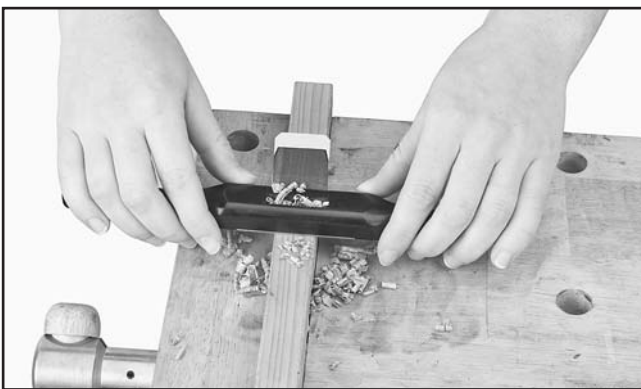

Figure 4. Example of pushing the spokeshave.
5. **To push the spokeshave:** Loosely grip the handles, place your thumbs behind the blade and your forefingers on the front side of the spokeshave, as shown in **Figure 4**. Push the tool forward, applying even pressure. Make sure the front and back of the sole and blade evenly contact the workpiece while pushing the blade forward.